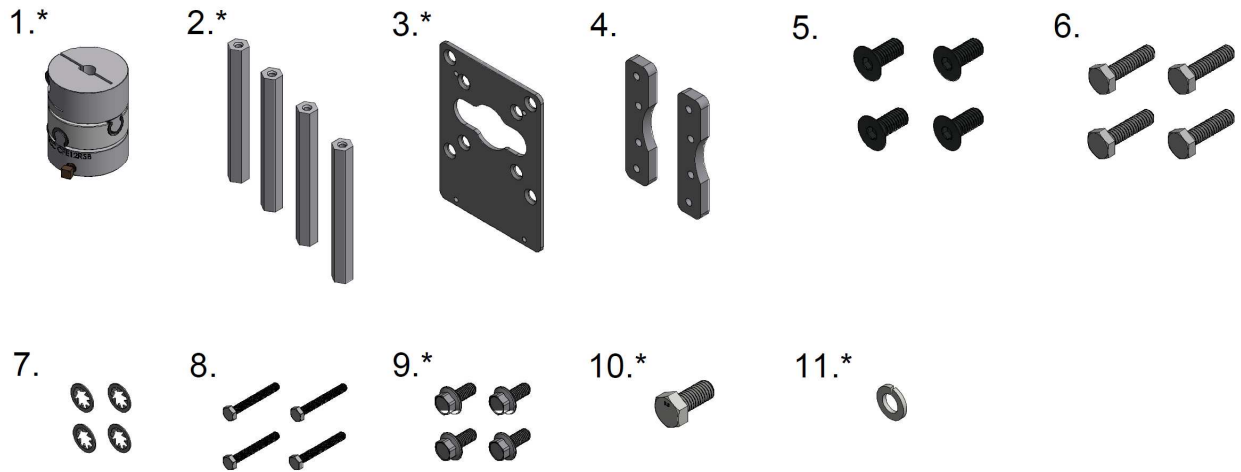

Figure 3: Components Supplied with a BR-OV-B... Bracket / Coupling Kit
Figure 3 shows the components supplied with a BR-OV-B... bracket / coupling kit:
* Component varies depending on the BR-OV-B... bracket / coupling kit. Image shown in Figure 3 may not be representative of actual component.